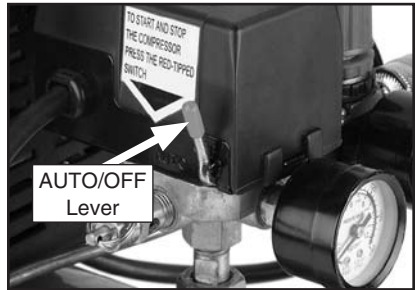

Figure 4. AUTO/OFF lever.
2. Make sure the compressor switch is in the OFF position (lever with red cap shown in **Figure 4**) before connecting to the power supply.